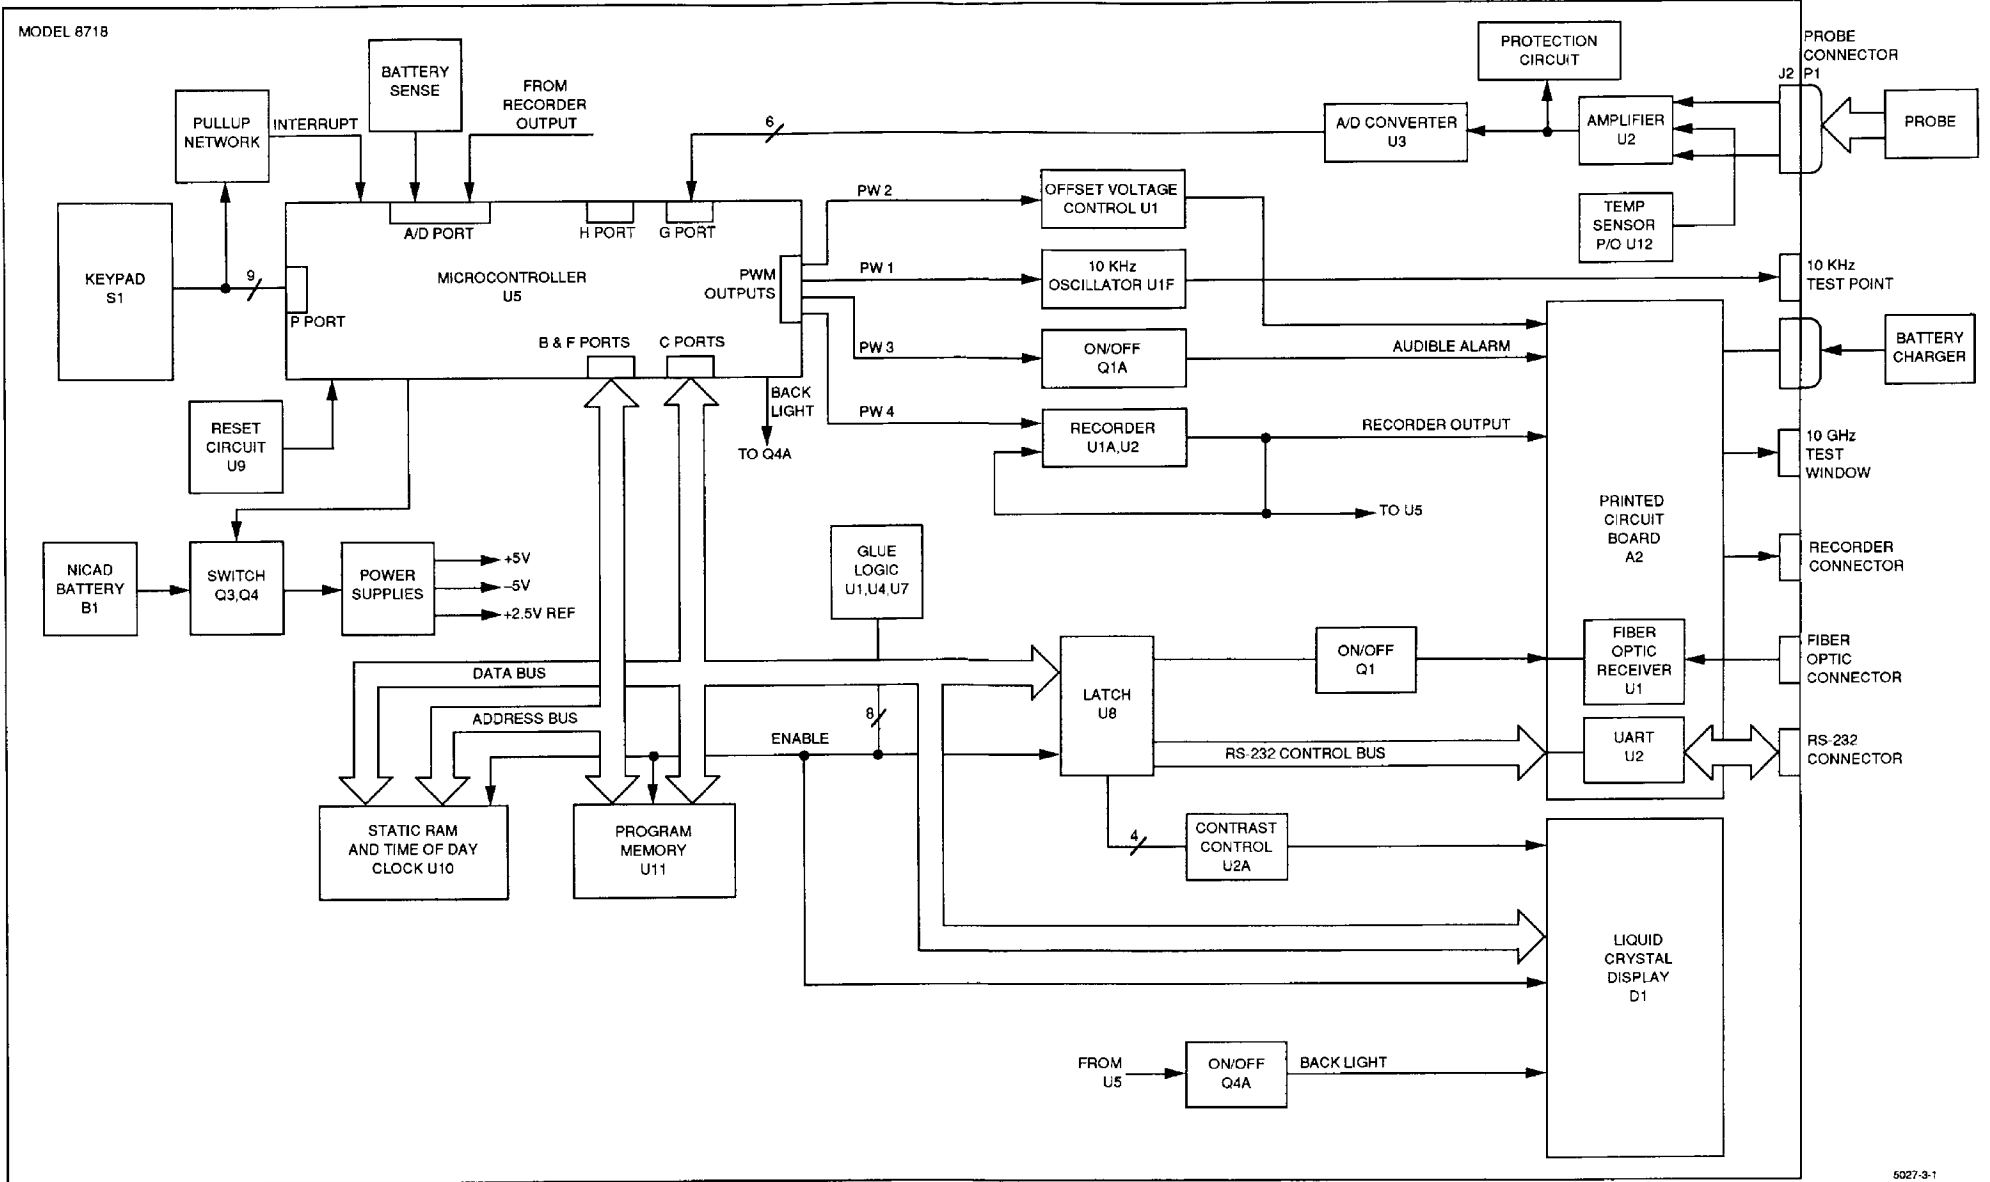

Figure 3-1. Model 8718, Functional Block Diagram
- b. **Meter Model 8718 Functional Description.** (See Figure 3-1.) The meter receives the signals from the probe, processes the signals and provides a visual display of the levels detected. Signals received from the probe at PROBE connector J1, are routed to amplifier U2. Amplifier U2 amplifies the signal from the probe and generates a signal to drive the A/D converter U3. The output of the A/D converter is routed to microprocessor U5 which drives the LCD. The meter also contains built-in self